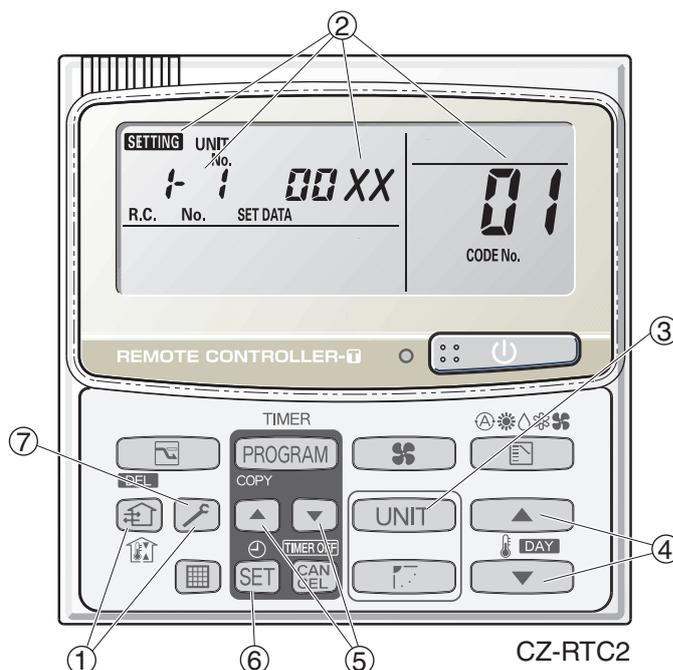

Fig. 7-1
- "SETTING," unit No. "1-1" (or "ALL" in the case of group control), item code "01," and settings data "00XX" are displayed blinking on the remote controller LCD display (Fig. 7-1). At this time, the indoor unit fan (or all indoor unit fans in the case of group control) begins operating.